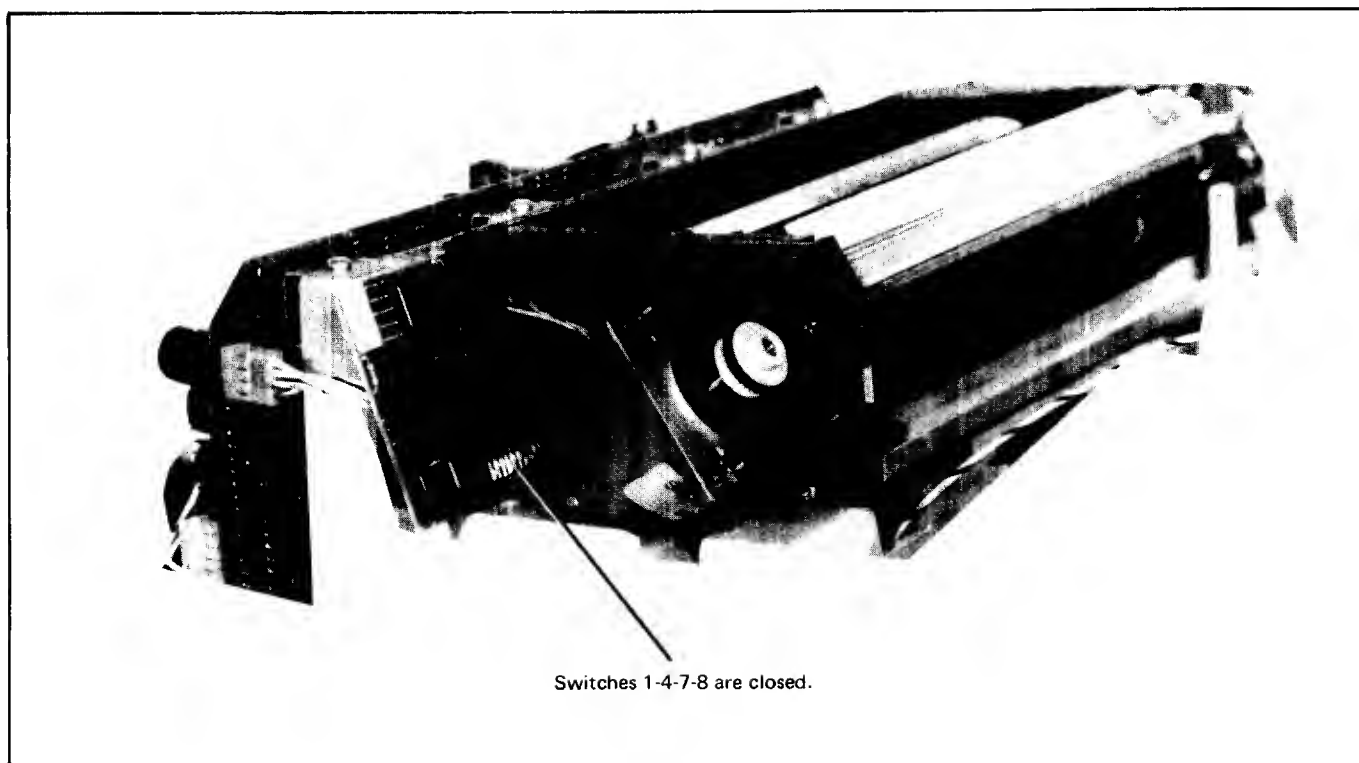
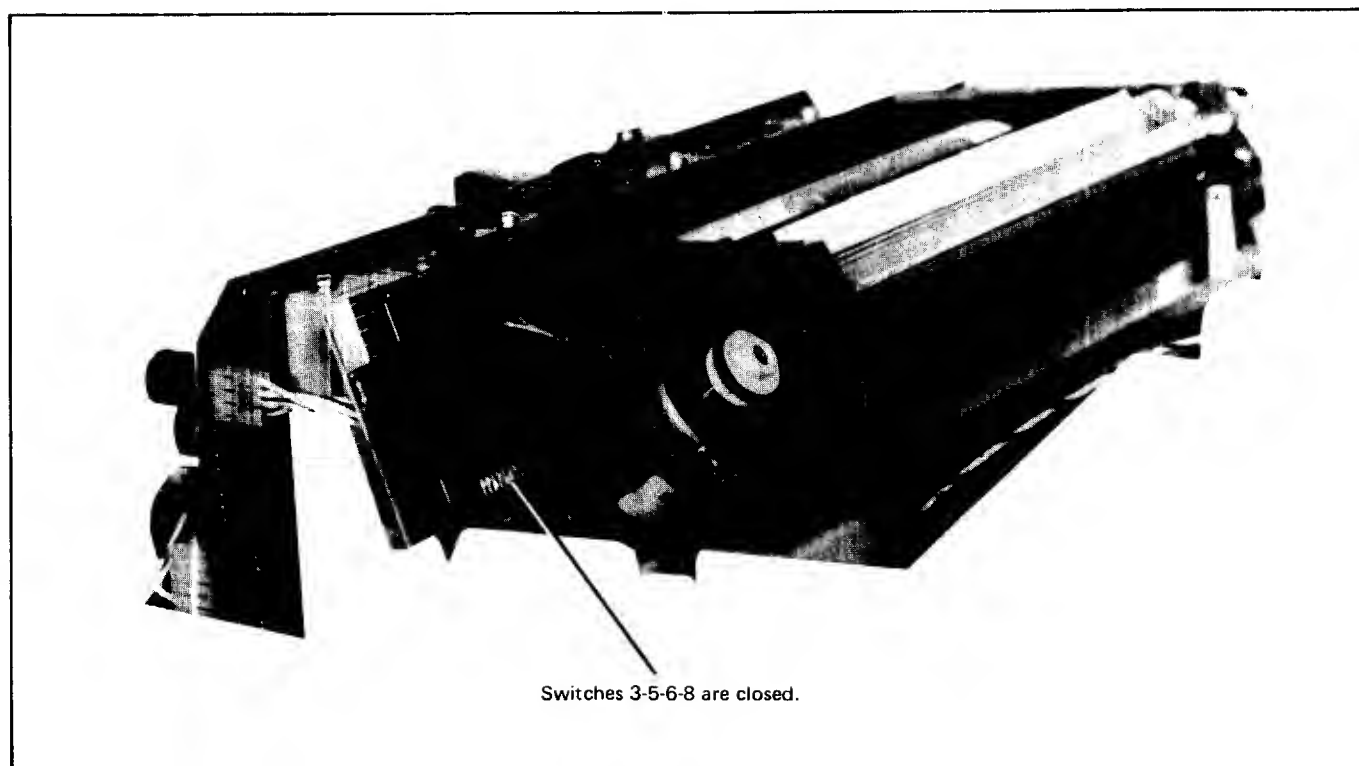

Figure 3-3 Printer PCA Strap Setting - when equipped with 1818-0763 character ROM
Figure 3-4 Printer PCA Strap Setting - when equipped with 1818-0981 character ROM
3. Check, and if necessary, change the strap settings. Refer to figure 3-3 or figure 3-4 as applicable.